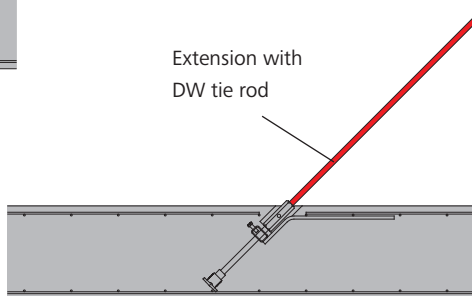

Fig. 16.3
3. Screw the DW tie rod for the extension into the coupling nut. The extension is used to anchor the support frame (Fig. 16.3 and 16.4).